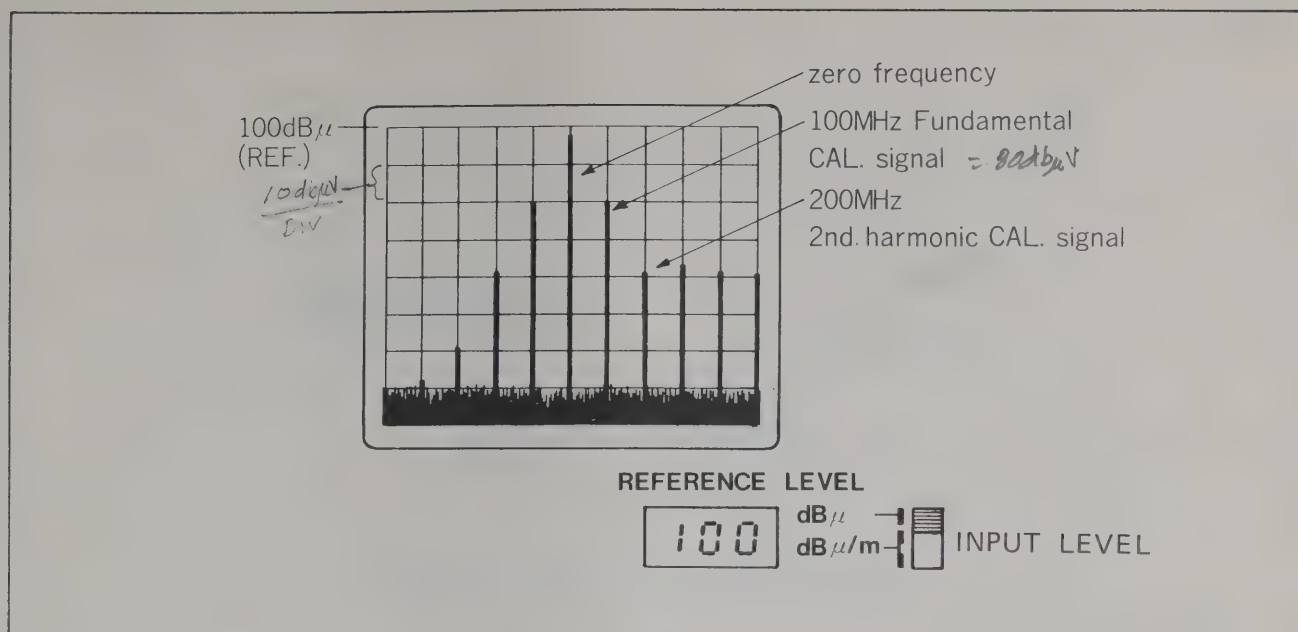

Figure 3.5 CAL. Signal Spectrum display
**3.4.1.8** Connect the CAL. OUT output to the INPUT connector. (Use the type N to BNC adapter on the INPUT). The CAL signal spectrum displayed on the CRT will appear as per Figure 3.5.
tablished by initial control settings). The CAL OUT signal is at a frequency of 100 MHz with an amplitude level of 80 dBuV, therefore the signal amplitude level should be 2 divisions or 20 dB down from the reference point (see Figure 3.5). If not, utilize the IF GAIN CAL adjustment (inner switch at CAL) to set the amplitude level to 80 dBuV.